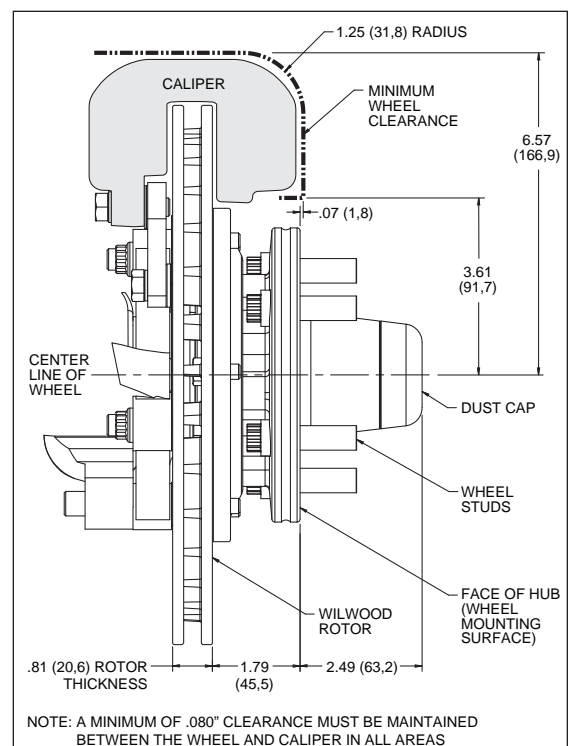

Figure 2. Wheel Clearance Diagram
- Verify wheel clearance utilizing Figure 2.
- **WARNING:** The wheel contact surfaces must seat completely on the face of the hub. If any contact surfaces overhang the outside diameter of the hub face, a 6.60" diameter x .20" thick steel spacer (item 16, Wilwood P/N 300-11961) MUST be used between the wheel and the hub.